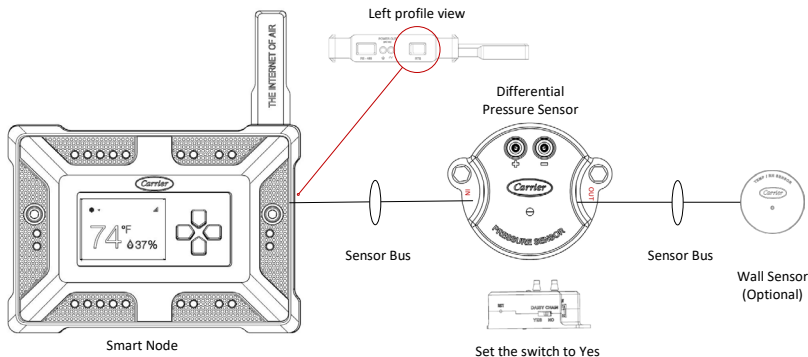

Figure 3
1. Turn off the power. Connect one end of the Sensor bus cable to one end of the RTS port on the Smart Node and the other end to the IN port of the DPS as shown in Figure 3.